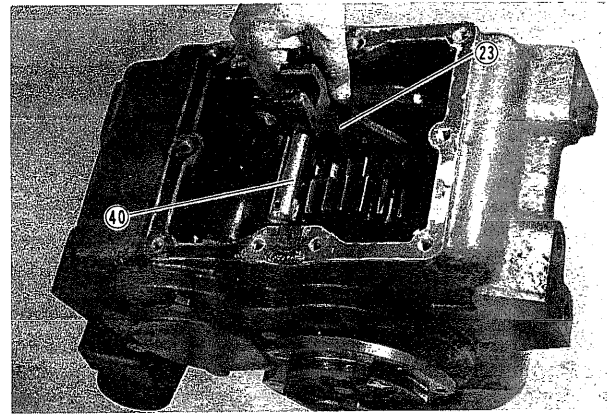

Fig. 43
(2) Remove shifter rod ④① together with shifter arm ②③. (Fig. 43)